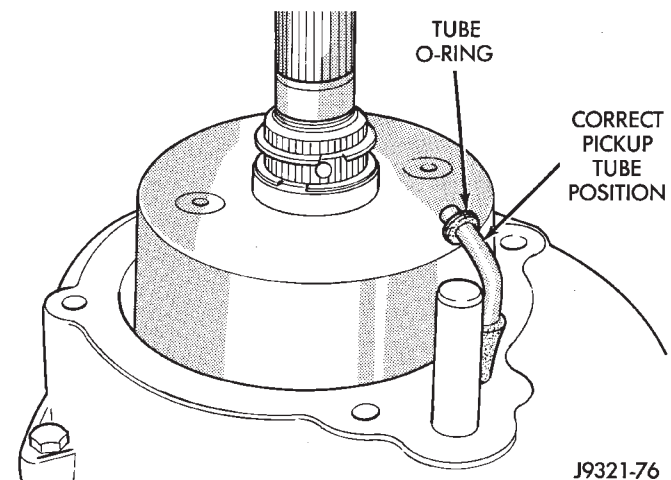

Fig. 87 Checking Position Of Oil Pickup Tube
(6) Verify that oil pickup tube is still seated in case notch and tube end is pointed toward mainshaft (Fig. 87).